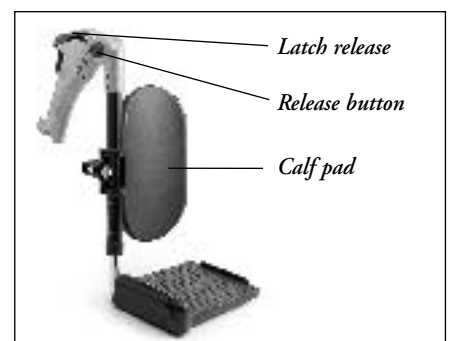

Figure 15
ELEVATING LEGREST (Fig. 15)**Attachment**
Step 1: To raise or lower the Elevating Legrest, the Heavy Duty release button (Fig. 15) must be engaged.
Calf Pad (Fig. 15)